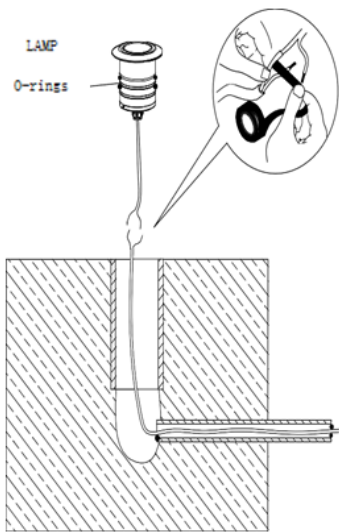

Figure 4
- Connect the lamp lead to the 12VDC lead inside the PVC pipe (Figure 4);